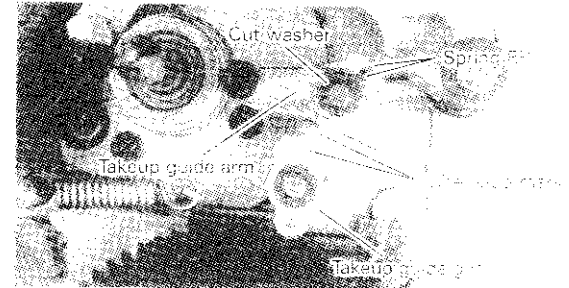

Fig.3-16-2
- (1) Attach the takeup guide arm to the main plate so that the Takeup guide arm, Takeup guide gear, and spring RP are positioned relatively as shown in Fig. 3-16-2, then fix with the cut washer.
- (2) Add the cassette housing.